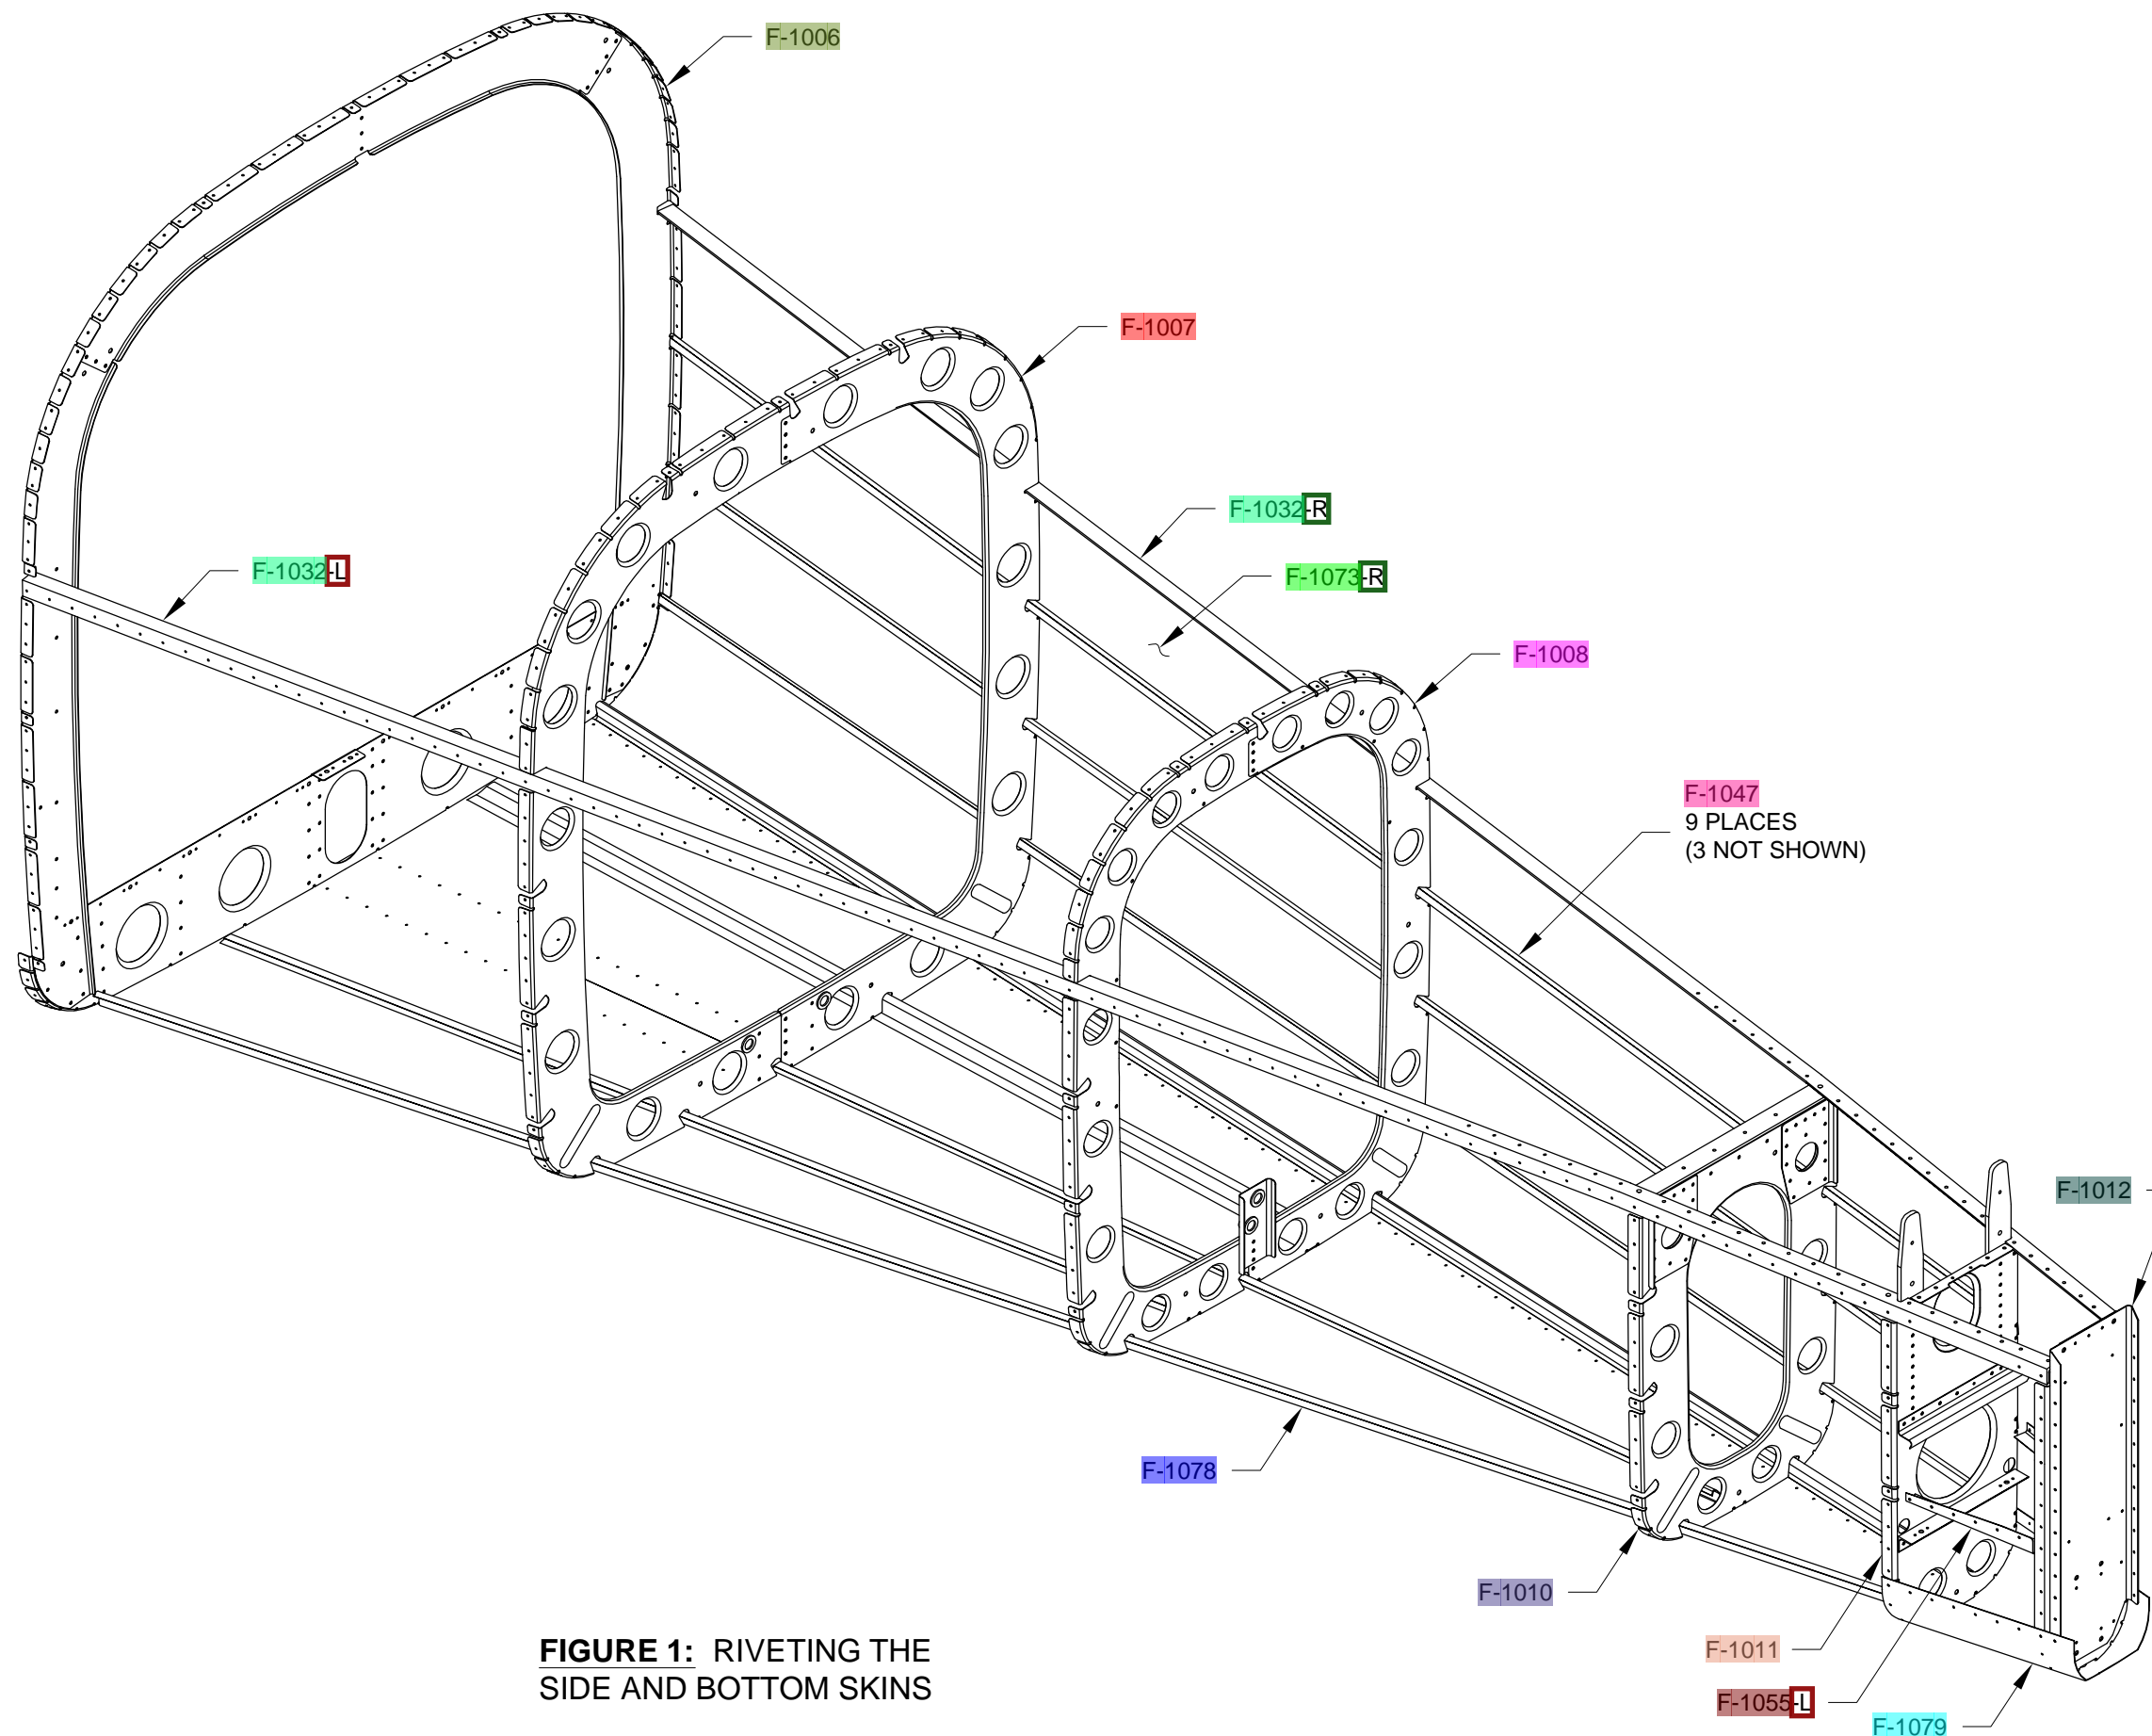

FIGURE 1: RIVETING THE SIDE AND BOTTOM SKINS
Step 1: Rivet the nutplates shown in Figure 1 to the F-1037B & C Bellcrank Rib Angles using the rivets called out.